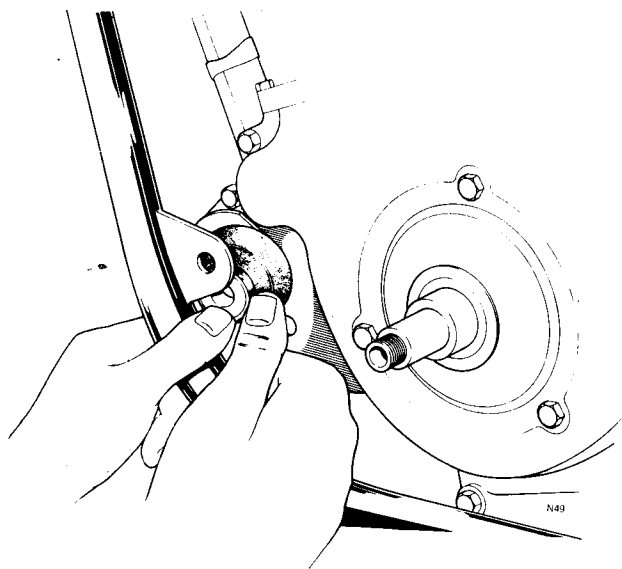

Fig. C40 Inserting front left gaiter mounting cap group
- 6 As in Fig. C40 insert the left set of gaiter, mounting cap, shims, etc., and again, by lifting the crankcase for improved hole alignment, slide the centre bolt fully home.